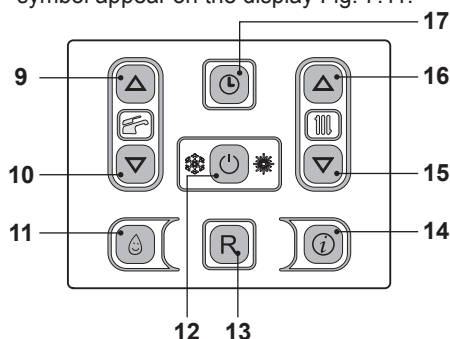

Fig. 7.11
- Press the 12 key for 2 seconds until the  symbol appear on the display Fig. 7.11.
- Switch off the boiler by pressing the 12 (Fig. 7.11) key for 2 seconds until the — — — — symbol appears on the LCD display (Fig. 7.10).
Press the reset key on the boiler control panel 13 (Fig. 7.11) to reset its functioning.